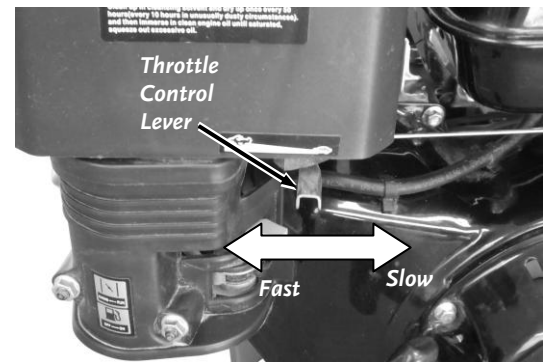

Figure 16
3. Move the Throttle Control Lever to about half way between Slow and Fast position (**Figure 16**).
1. Slowly move the Throttle Control Lever all the way to idle "turtle" position (**Figure 16**).